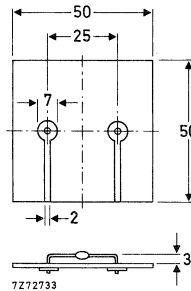

Fig. 2.
2. Thermal resistance from junction to ambient when mounted on a 1,5 mm thick epoxy-glass printed-circuit board; Cu-thickness  $\geq 40\text{ }\mu\text{m}$ ; Fig. 2